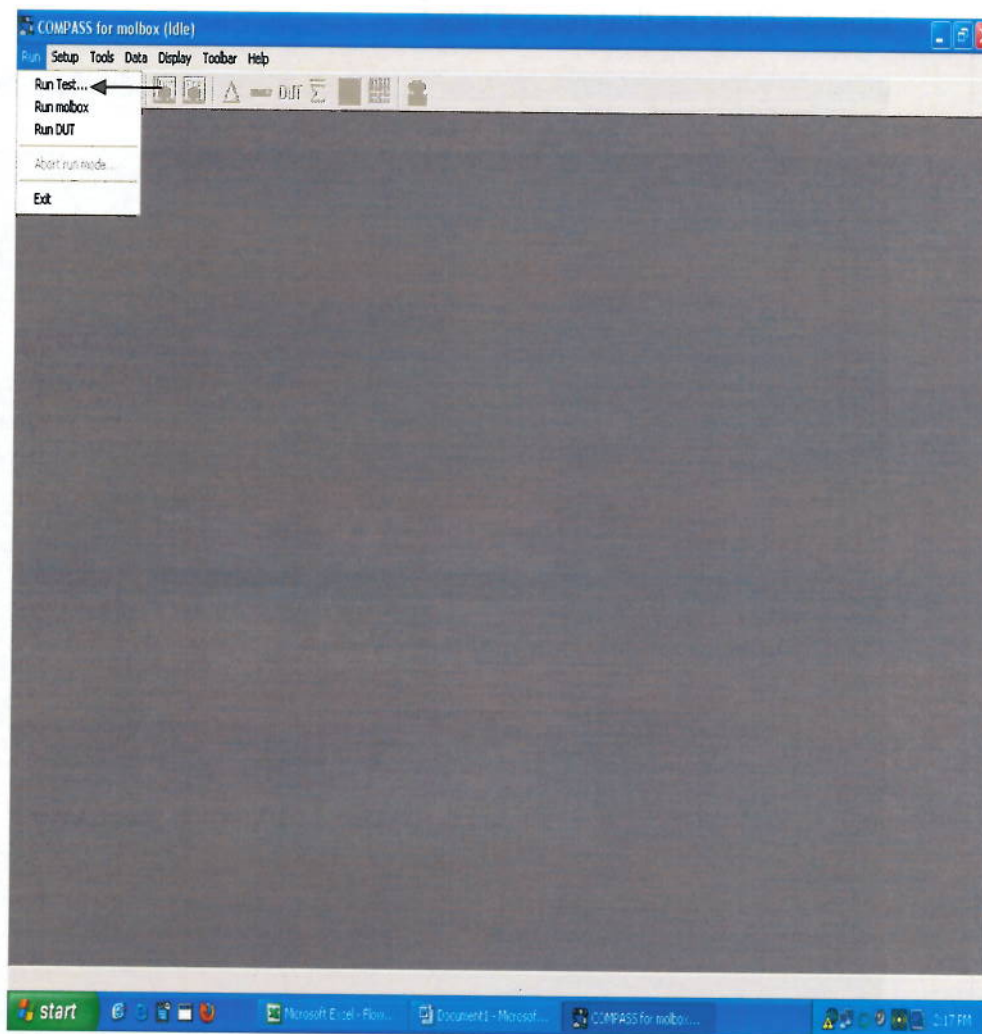

Figure 3
12.3.2 Click on “Run Test”. See Figure 3.